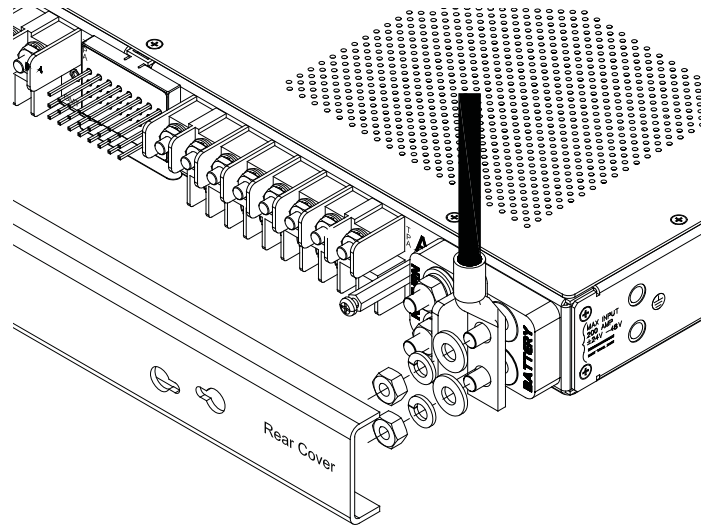

Figure 5 - Input Lugs
14. Connect the lugs to input terminals on back of panel, as shown in Figure 5.